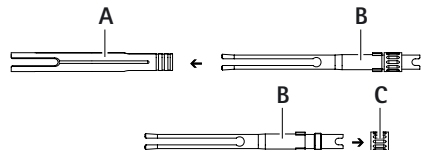

Fig. 8
- Unscrew fixing screw C from the rear end and remove from collet B, see Fig. 8.